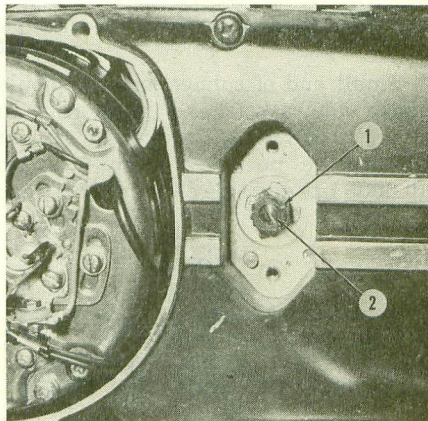
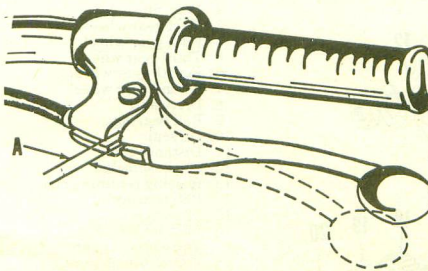

Fig. Y11-8—Clutch adjustment point on left side of engine.
Fig. Y11-9—Adjust clutch cable to obtain 2-3mm free play at (A).
CLUTCH CONTROLS. To adjust clutch, remove the small cover on left side of engine case. Loosen lock nut (1—Fig. Y11-8) and turn screw (2) in until it seats lightly. Back screw out $\frac{1}{4}$ turn and tighten lock nut. The clutch lever should be adjusted to provide $\frac{1}{16}$ – $\frac{1}{8}$ inch free play. Refer to Fig. Y11-9.